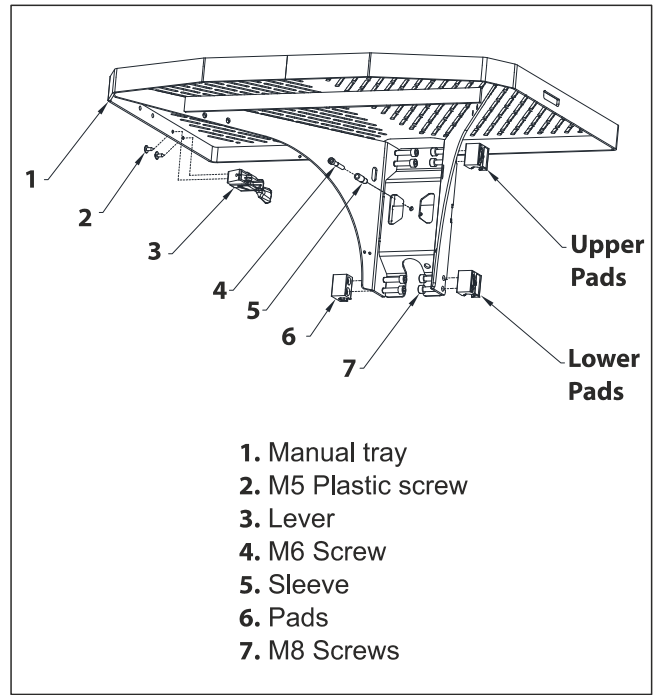
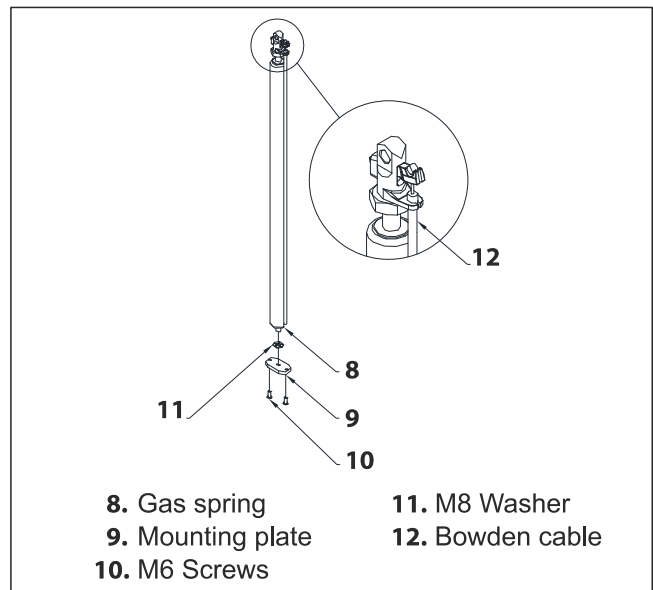

Figure 6-9. Manual Tray Disassembly
Figure 6-10. Gas Spring Assembly
Manual tray (1) see Fig. 6-9 is mounted on pads (6) and linked with spacer (5) to the gas spring (8) see fig.6-10.
Gas spring (8) see Fig.6-10 is mounted on a fixing plate (9). It is actuated by bowden cable (12) using a lever (3) see Fig.6-9.
2. On tray (1) see Fig. 6-9, mount the 2 LOWER PADS (6) with 2 M8 screws (7) per pads. Do not tighten screws. Then insert the tray on rails and fit pads using M8 screws (7). Tighten all M8 pads' screws using LOCTITE 243.
4. Compress the gas spring (8) with lever (3) ensuring the actuator is on the TOP side. See Fig. 6-10.
5. Dismount the end of bowden cable (12) fitted on actuator with a flat screwdriver.
6. Install mounting plate (9) on the platform using M6 screws (10).
7. Insert gas spring (8) (without the Bowden cable) into platform's hole to screw it on the mounting plate (9) using LOCTITE 243 (use a clamp without degrade the barrel gas spring see Fig. 6-10).
8. Insert sleeve (5) on gas spring's head.
9. Low the tray to insert M6 screw (4) and assemble the tray with the gas spring using LOCTITE 243.
10. Tighten gas spring's lever (3) with screws (2) and root the bowden cable on tray's hole. Then, fit the end of bowden cable on the gas spring's actuator.